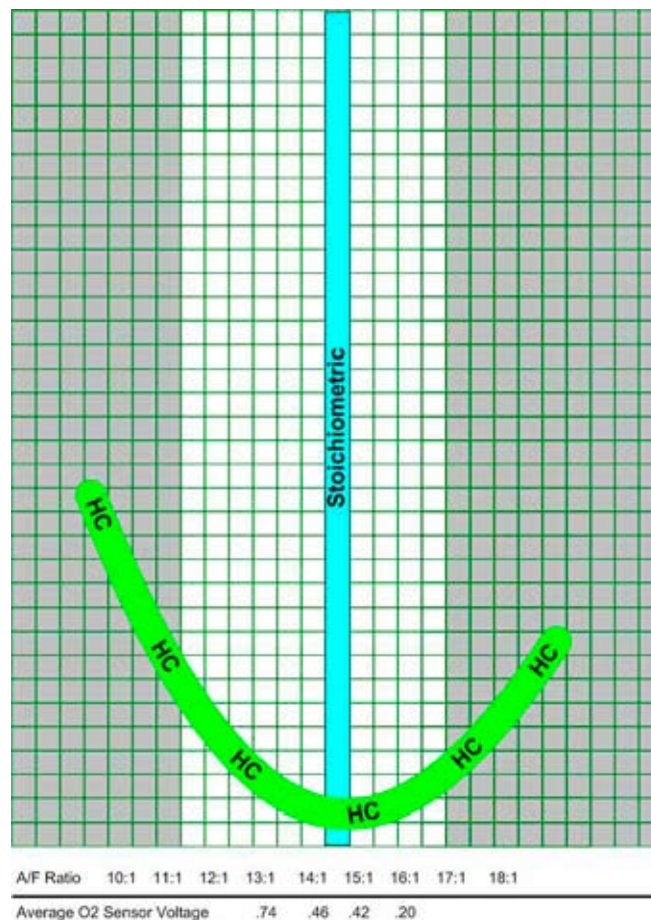

Figure 5: HC vs. air/fuel ratio
All motor fuels consist of various hydrocarbon chains. If combustion was perfect, they would all be consumed during the combustion process. But as it is never perfect, there will always be some hydrocarbons (HC) present in the exhaust gases, albeit very small concentrations on late model vehicles. There can be several sources of excess hydrocarbons in the exhaust gases. Cylinder sealing, especially exhaust valve leakage, ignition system defects and EGR dilution are just a few areas that can contribute to elevated HC levels. With regard to an air/fuel ratio chart, you will notice that HC levels are at their lowest when the mixture is at stoichiometric (see Figure 5), but increase significantly as the mixture goes rich or lean from ideal.